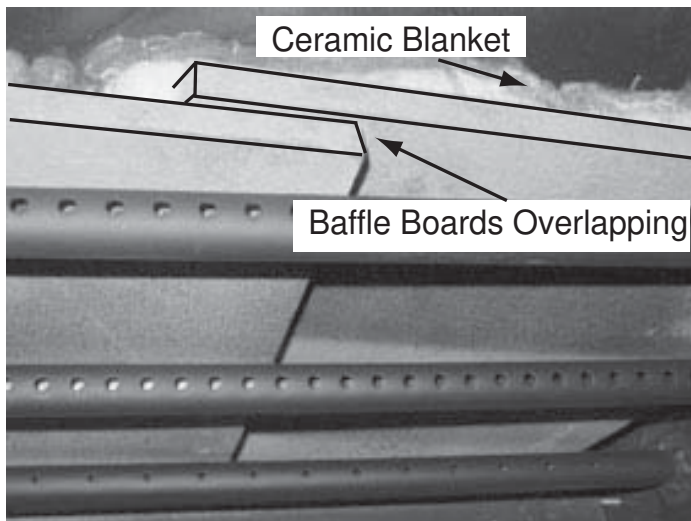

Figure 23.1
3. Once the baffle protection cover has been removed, pull the baffle boards and ceramic blanket forward about 1 inch (25mm) and then overlap the baffles about 1-2 inches (25-51 mm). **Figure 23.1**.